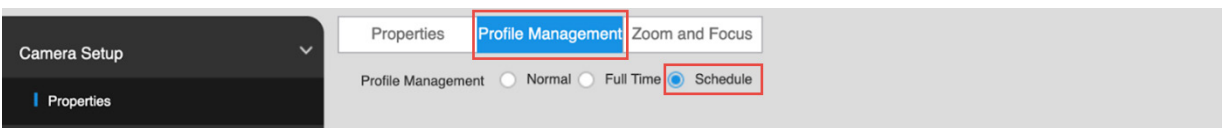

Fig. 4.13
12. Select the “Profile Management” tab and then check the “Schedule” option, see Fig. 4.13.